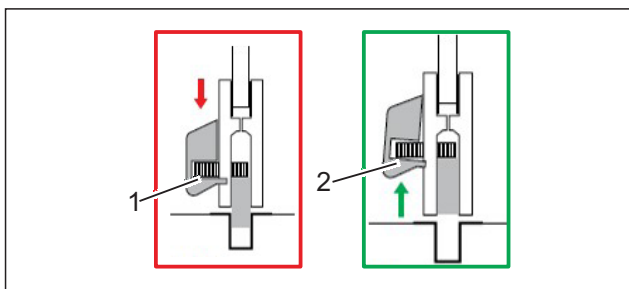

Fig. 5 Face-mounted slide bolt
- Face-mounted slide bolt down (Fig. 5/1)
- Face-mounted slide bolt up (Fig. 5/2)